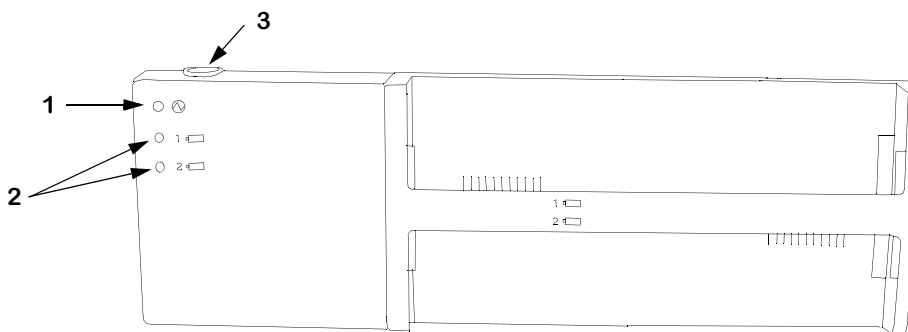

Figure 9 External Battery Charger Controls and Indicators
3.3 External Battery Charger. Refer to **Figure 9** and **Table 4** for explanation of controls and indicators for External Battery Charger.